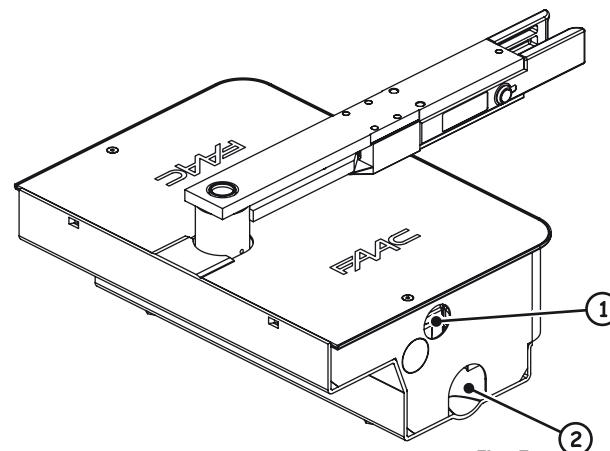

Fig. 7
- Lay down a PVC tube of diameter 35 mm through which to pass a 4 core electrical cable. The tube must reach from the box to the control unit (Fig. 7 rif. ①). Lay a second tube to drain off rain water, from the box to the nearest drain (Fig. 7 rif. ②).